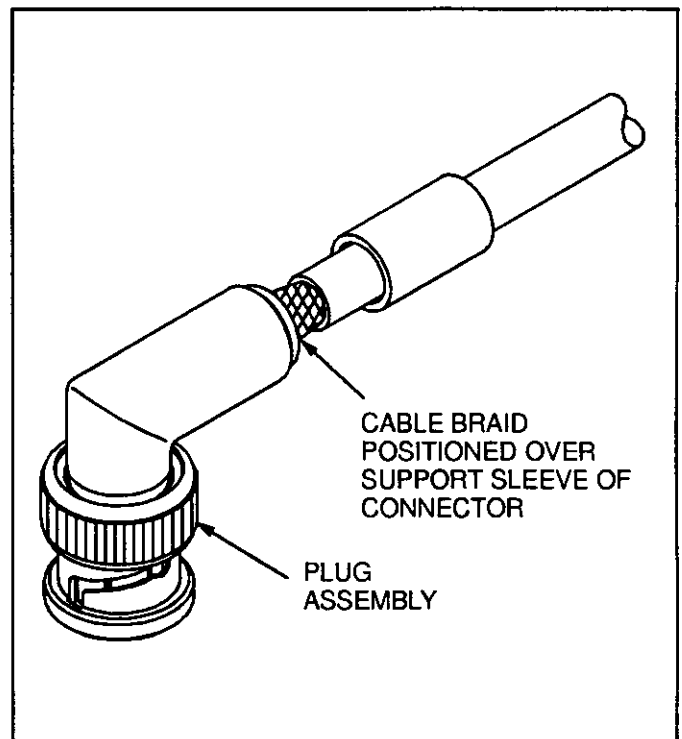

Fig. 5
3. Insert center contact into plug assembly. Make sure the cable braid is positioned over the support sleeve of the plug assembly, as shown in Figure 5.